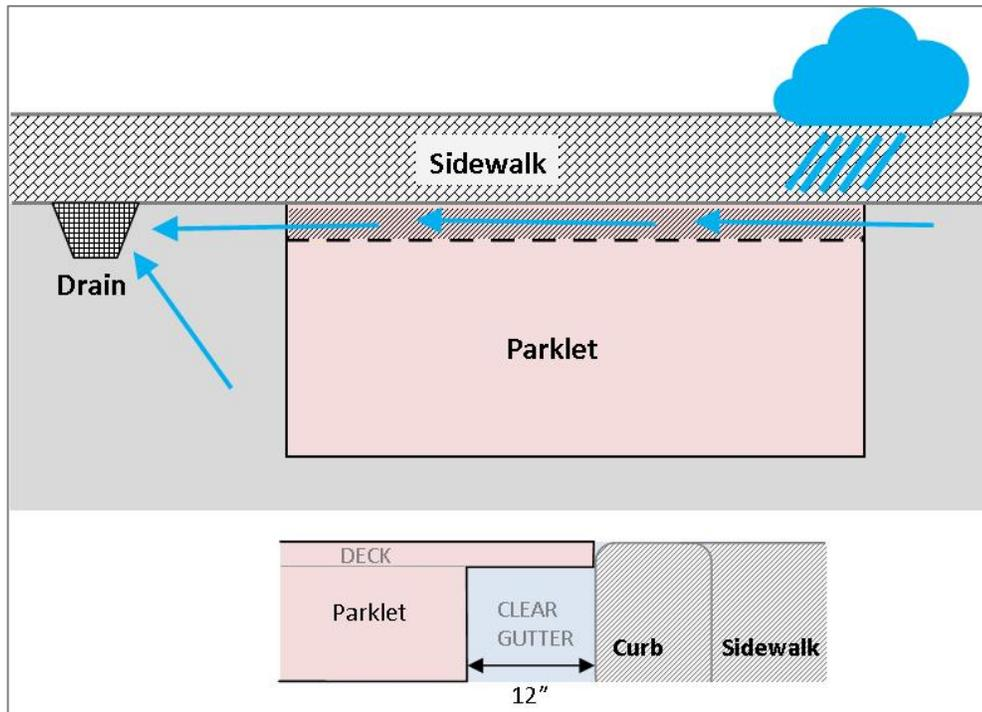

Figure 3. Drainage
- The parklet platform must be designed to allow for curbline stormwater drainage and include a minimum 12" gutter bar. Please refer to Figure 3.